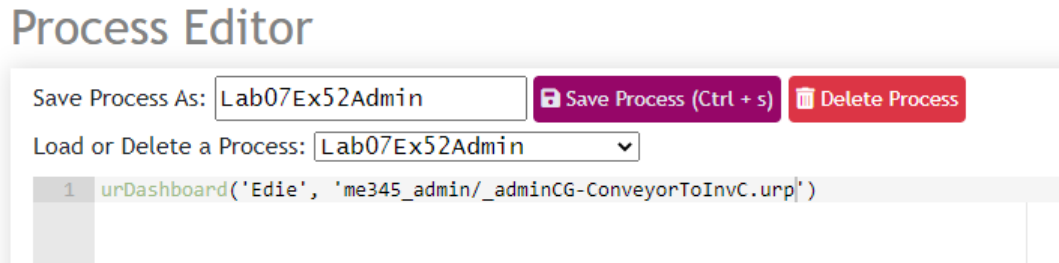

Figure 8: Process Editor with a completed urDashboard task
13. Recall step 7 of this exercise. The *README* states the second argument to the `urDashboard` task is a 'robotPath'. In this case, the 'robotPath' is the filename copied in the previous step. Paste it inside the single quotes in the task. Be sure the arguments are separated with commas. A complete example is shown in Figure 8.